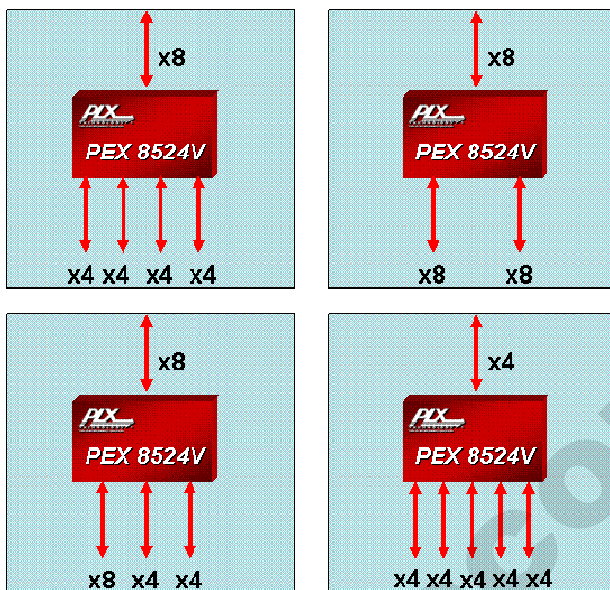

Figure 1. Common Port Configurations
The PEX 8524V supports a large number of port configurations. For example, if you are using the PEX 8524V in a fan-out application, you may configure the upstream port as x8 and the downstream ports as four x4 ports; two x8 ports for dual-graphics fan-out; or other combinations, as long as you don't run out of lanes (24) or ports (6). In a peer-to-peer application you can configure all six ports as x4. Figure 1 shows the most common port configurations.